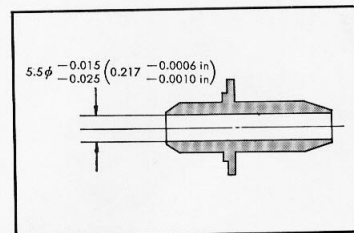

Figure 3-26. Valve guide
(1) Inlet and Exhaust Valve Guide. (Fig. 3-26, 3-27)